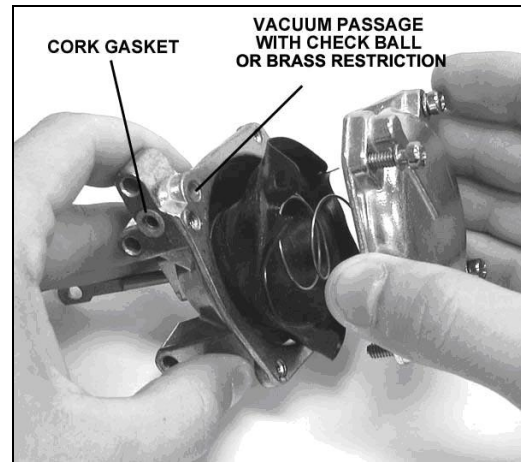

Figure 18
- Gently remove the cover. Take care as not to tear the diaphragm or loose the check ball (Figure 18). **NOTE: Your secondary housing may have a brass restriction inserted where the check ball should be. If that is the case, please disregard all references to the check ball as yours does not use a check ball.**